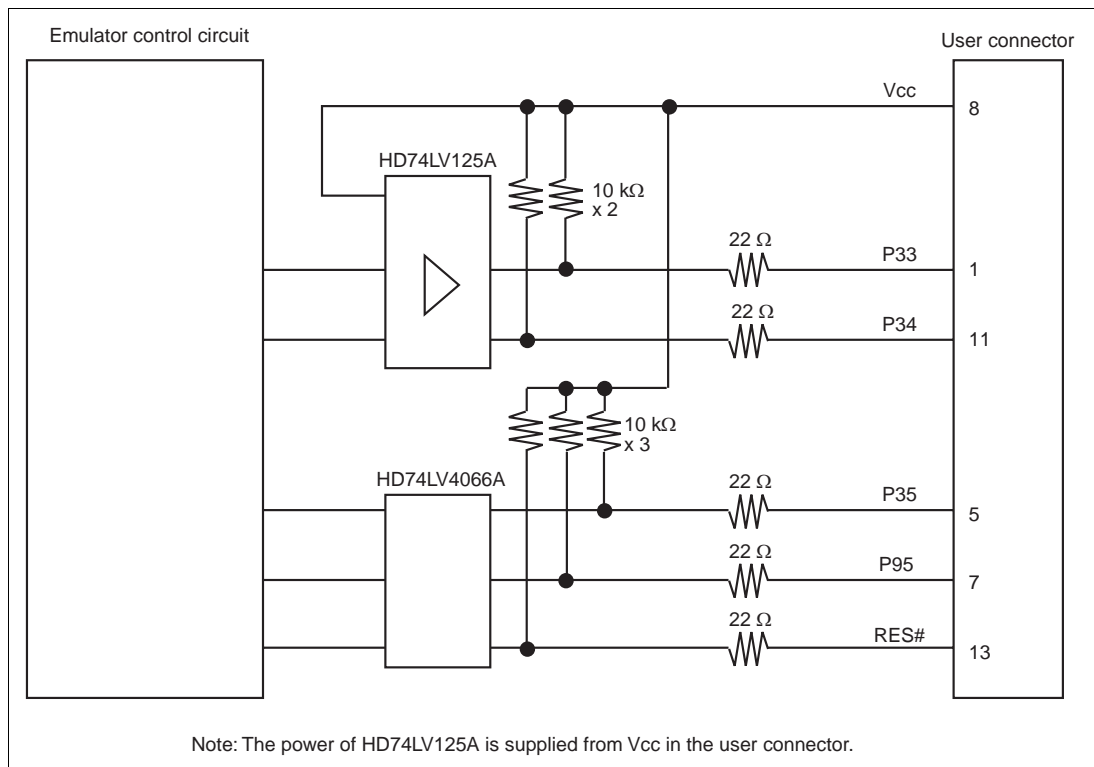

Figure 3.5 Interface Circuit in the Emulator (Reference)
7. Figure 3.5 shows the interface circuit in the emulator. Use this figure as a reference when determining the pull-up resistance value.